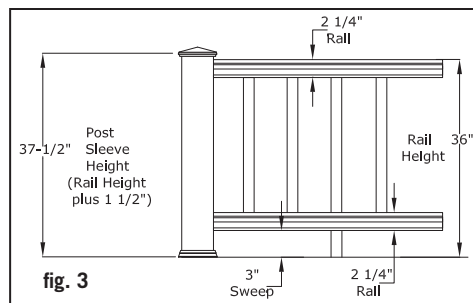

fig. 3
Step 5: Trim 4x4 post sleeves to length. Post sleeves should be a minimum of 1-1/2" longer than the railing height (fig. 3). Example: For a 36" high railing, trim post sleeve to a minimum of 37-1/2". Can be left longer if desired. Slide a trimmed post sleeve over each 4x4 railing post. Slide a post base trim over each post sleeve.
Step 8: Assemble the lower inner rail and support block section. A support block is needed every 2' on-center. Check building codes for maximum spacing between deck surface and bottom of rail (sweep). A 3" sweep is recommended, but it can be more or less if codes allow (fig. 3). Trim support blocks to desired height and pre-drill with 1/8" drill bit. Using two 1-1/2" long pan head screws, fasten support blocks to the underside of the inner rail an equal distance from the ends.
Step 10: Determine the length of the balusters (fig. 3). Fig. 3 illustrates how a 36" high railing might be sized. Starting with a 3" sweep + 2-1/4" for the bottom railing, + 28-1/2" baluster height + 2-1/4" for the top rail = a 36" rail height. If these are the dimensions that you are going to use, cut the balusters to 28-1/2" length using a cut-off or table saw. Use 34-1/2" balusters for 42" railings. If you want to have your railing at a different height, use fig. 3 as a planning tool to determine the height to cut the post sleeves and the balusters. **Note: Use a fixture to ensure a consistent length (+/- 1/16").**